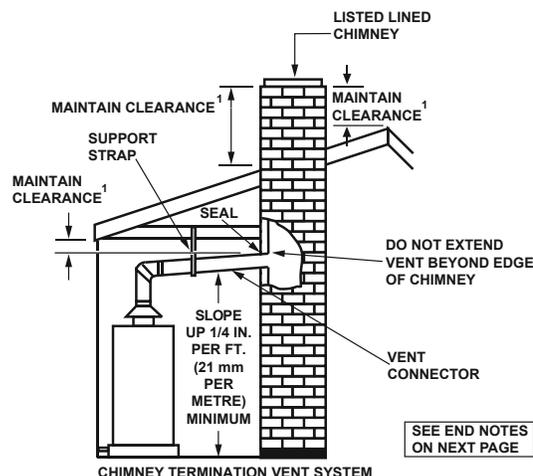

FIGURE 10.
- The connector must not extend beyond the inner edge of the chimney as it may restrict the space between it and the opposite wall of the chimney (Figure 10).
An unused chimney flue or masonry enclosure may be used as a passageway for the installation of a gas vent (Figure 10).